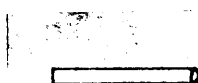

Figure 4.
1. Round end of stock slightly, (Figure 4). This may be done on the grinding wheel, grindstone or with a file or a hammer. The purpose of rounding the stock slightly on the end is to aid the die in starting easily.